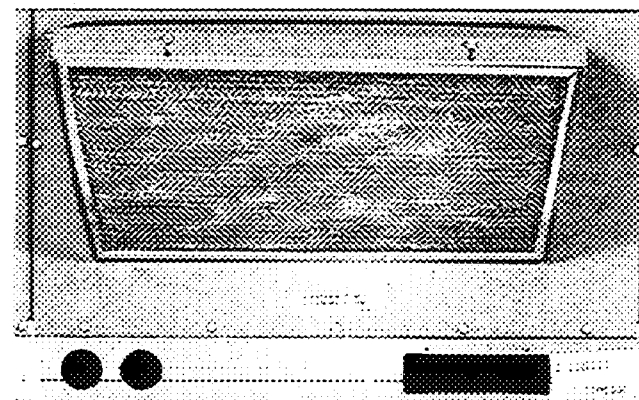

**Fig. 27 – Filter Installed on Outdoor-Air Hood
11. Slide outdoor-air inlet screen(s) into screen track on hood side plate. On 008 and 012 units, use screen clasp to hold screens together. While holding screen(s) in place, fasten screen retainer to hood using screws provided. See Fig. 27.